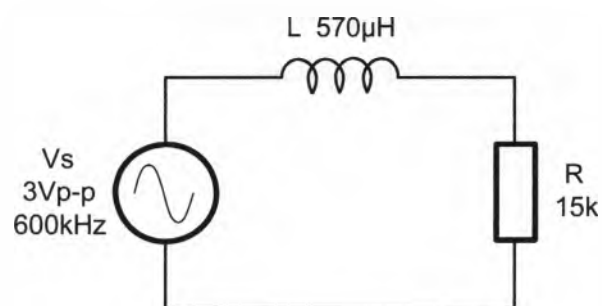

Figure 4
14. For the circuit of Figure 4, calculate:
15. Draw the impedance triangle for the circuit of Figure 4 at the frequency given.